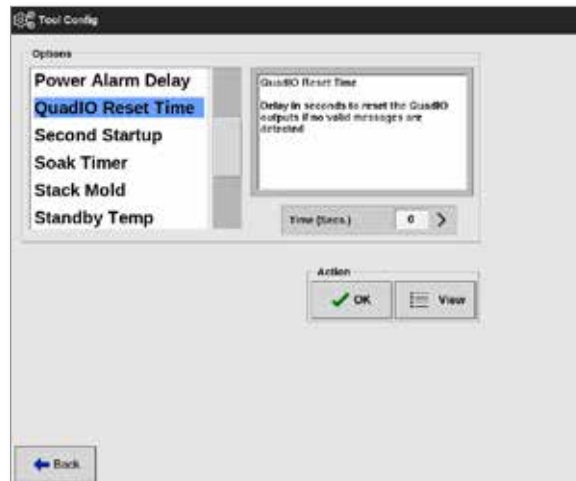

Figure 13-2 Choose Quad IO Reset Timer
4. Choose Quad IO Reset Timer from the options list. See Figure 13-2.